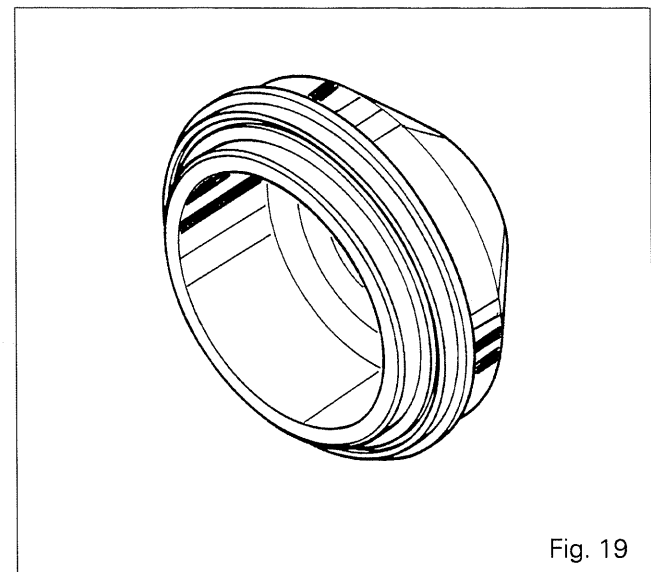

Fig. 19
**\* 3378056M1 - Seal (45) fitting ring front axle AG 155 (Fig. 19)**
**\* 3378057M1 - Seal (45) fitting ring front axle AG 200 (Fig. 19)**